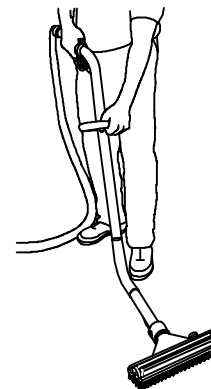

FIG. 41
8. Squeeze lever on wand and spray solution on floor. Scrub floor with brush side of wand and vacuum up solution with squeegee side of wand (Figure 41).